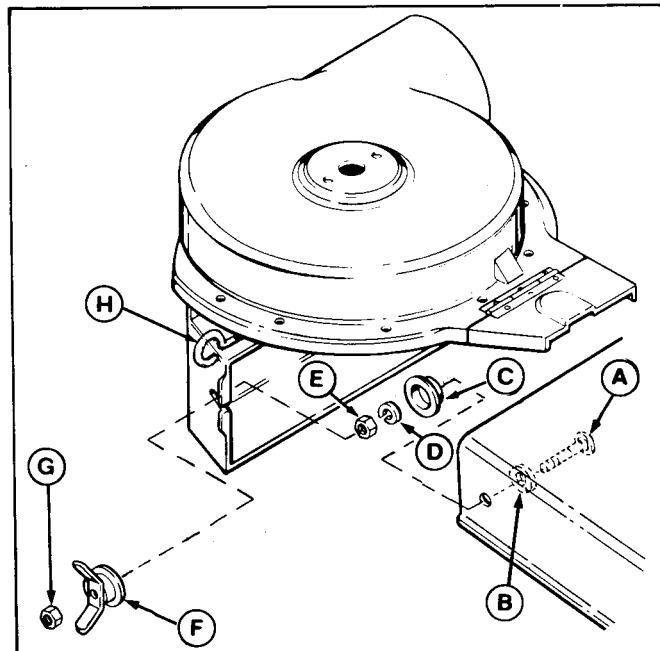

Figure 7.
14. Install wing nut assembly (figure 7) as follows. Insert 5/16-18 x 2-1/2 capscrew (A) and 5/16 flat washer (B) from inside the deck. Place the cup (C) onto the capscrew and install 5/16 lockwasher (D) and 5/16 nut (E). Thread the wingnut (F) onto capscrew and install the 5/16 locknut (G) flush with end of capscrew.
Cup (C) must be installed as shown in figure 7.